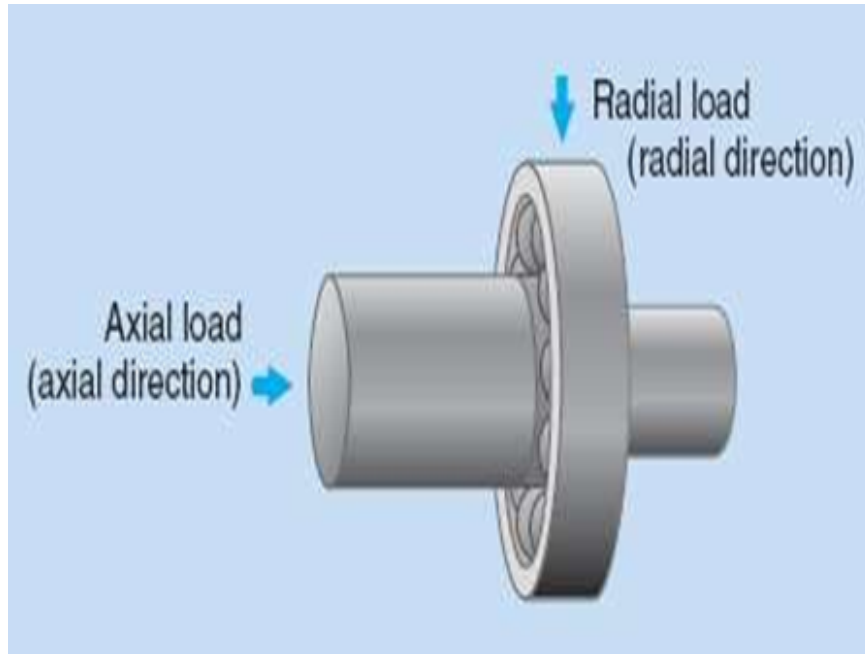

Figure 4.1.1
- Bearing are used to support rotating shaft and are classified according to the direction of the main load. (see figure 4.1.1)